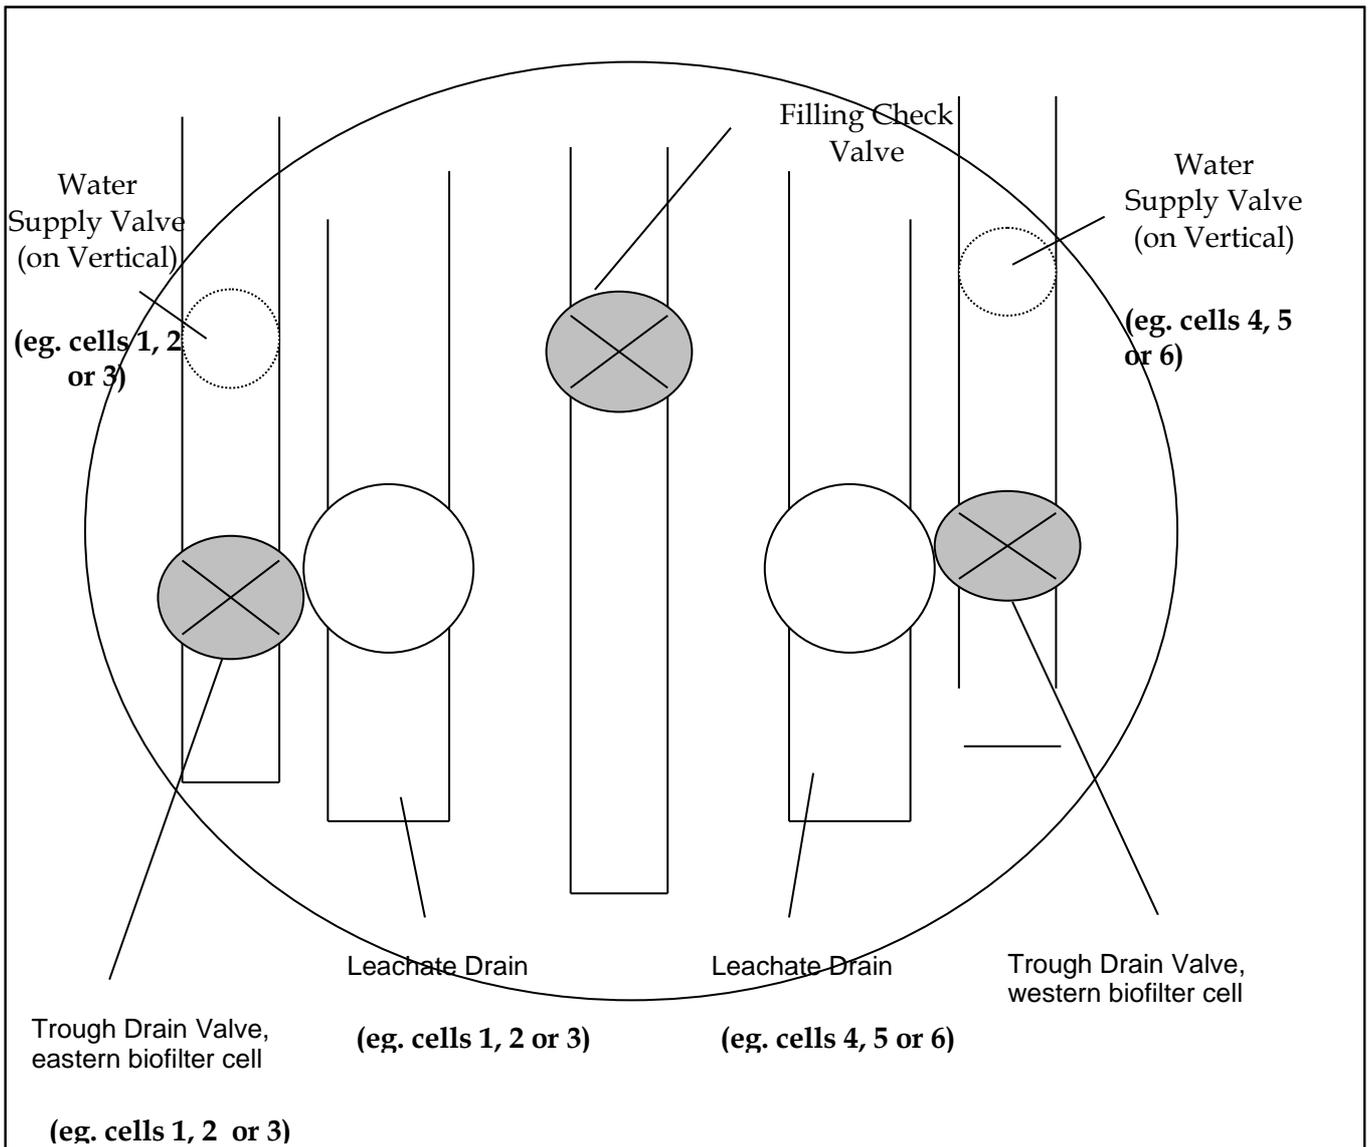

Figure 2: Layout of valves in Manhole
3. Isolate cell by closing and opening the appropriate valves (refer figure 2)